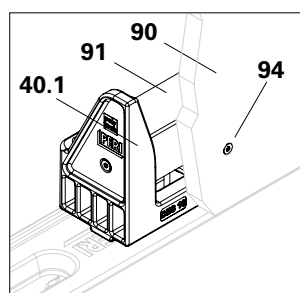

Fig. A4.06
1. Insert a 50 x 50 x 120 mm timber inlay (91) into the DES extension support (40), and secure with Torx screws 5 x 15 (94).
3. Screw the filler plate (90) tightly onto the timber inlay using at least two 5 x 40 Torx screws (94):
- as height compensation on the straight side (40.1), (Fig. A4.06)